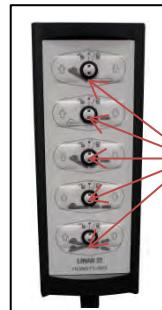

Figure 10: Test each function on the handset
12. Carefully place the bed back onto its wheels and test handset functions (figure 10), by default the Trendelenburg function is locked out